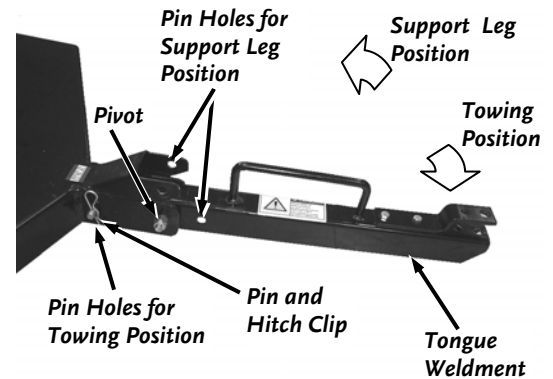

Figure 22
2. Pull the Hitch Clip from the Pin and remove the Pin (*Figure 22*).